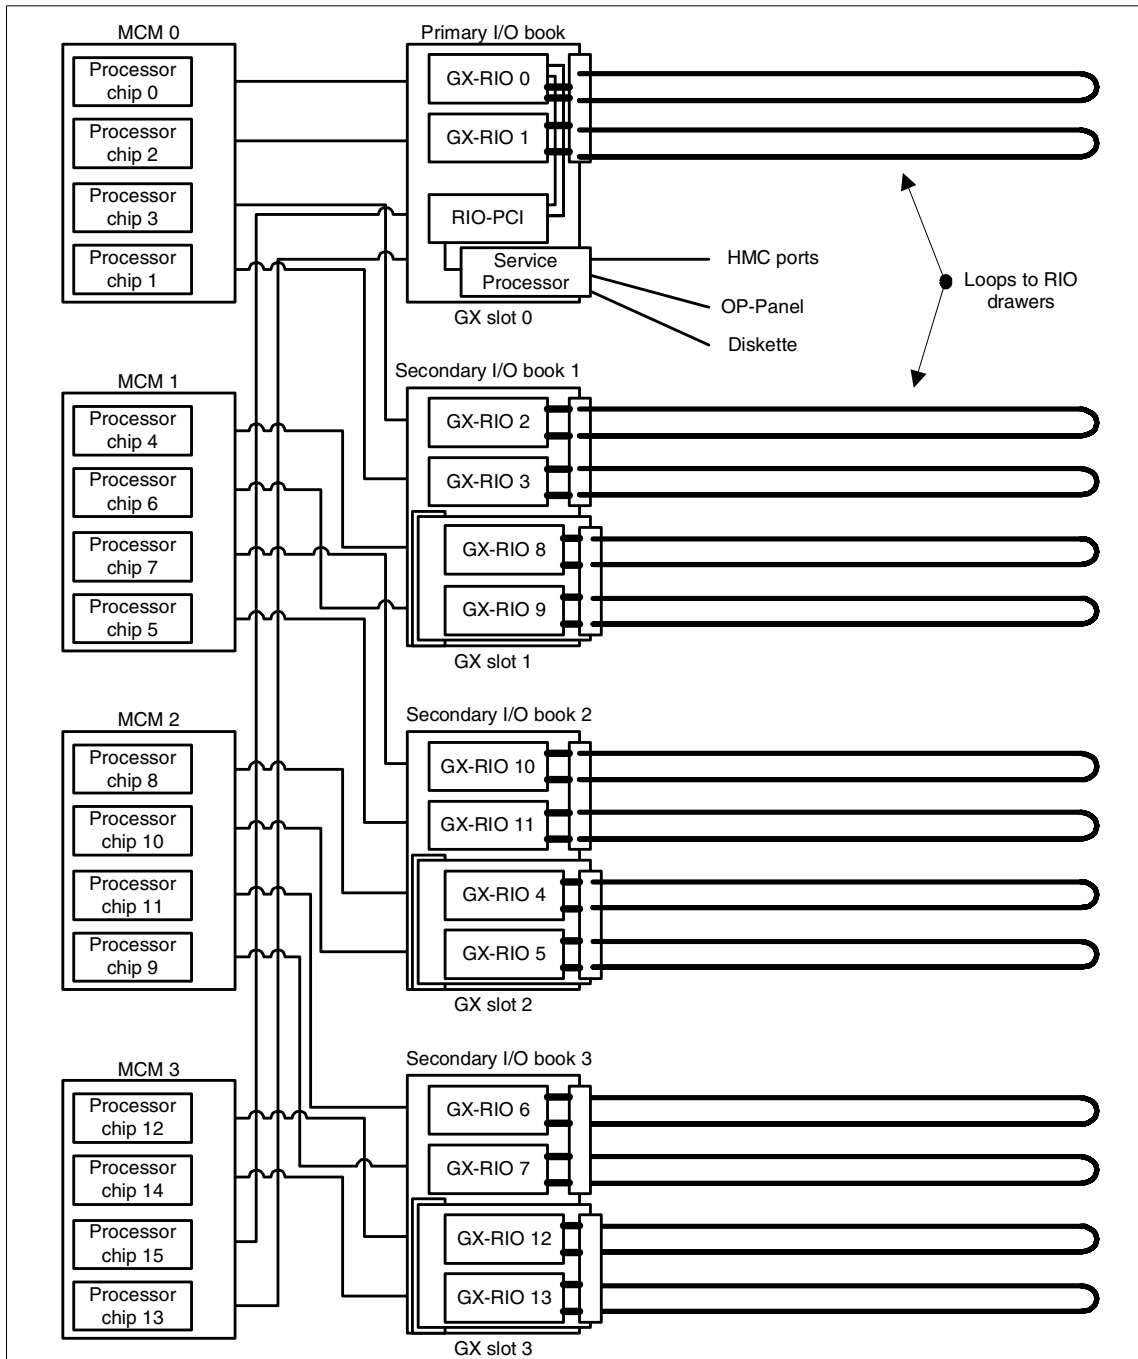

Figure 2-12 MCMs and RIO ports relationship (pSeries 690)
- ▶ In a single MCM configuration (only MCM 0 is populated), the POWER4 processor chips 0 and 2 are connected to GX Slot 0, and the processor chips 1 and 3 are connected to GX Slot 1, as shown in Figure 2-12 on page 41. But since the GX Slot 1 cannot be used in a single MCM configuration, only the primary I/O book is accessible in GX Slot 0. This means that up to two I/O loops can be configured.
- ▶ In a single MCM configuration (only MCM 0 is populated), the POWER4 processor chips 0 and 2 are connected to GX slot 0, and the processor chips 1 and 3 are connected to GX slot 1, as shown in Figure 2-12 on page 41. But since the GX slot 1 cannot be used in a pSeries 670 configuration, only the primary I/O book is accessible in GX slot 0. This means that up to two I/O loops can be configured.